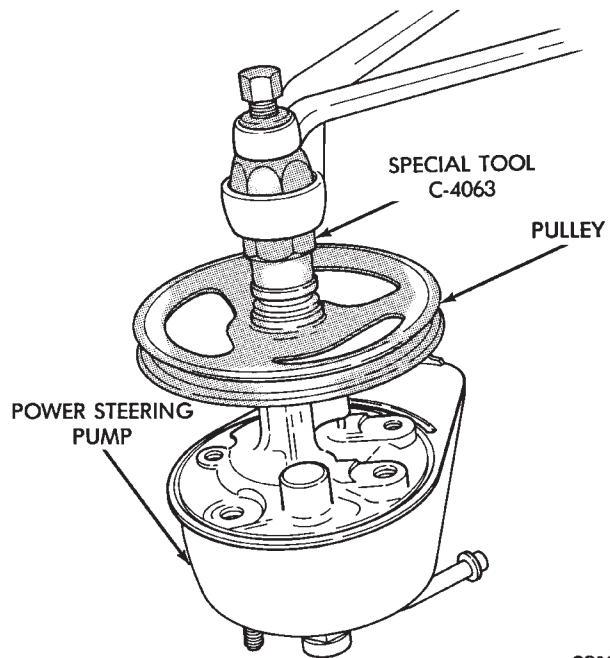

Fig. 2 Pulley Installation (Typical)
(1) Install the pulley with Installer C-4063 (Fig. 2). Do not use the tool adapters.